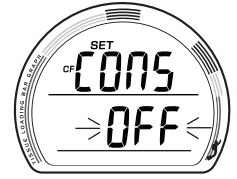

Fig. 44 - SET CF
**SET CONSERVATIVE FACTOR (TECH only)**, information is to include (Fig. 44):